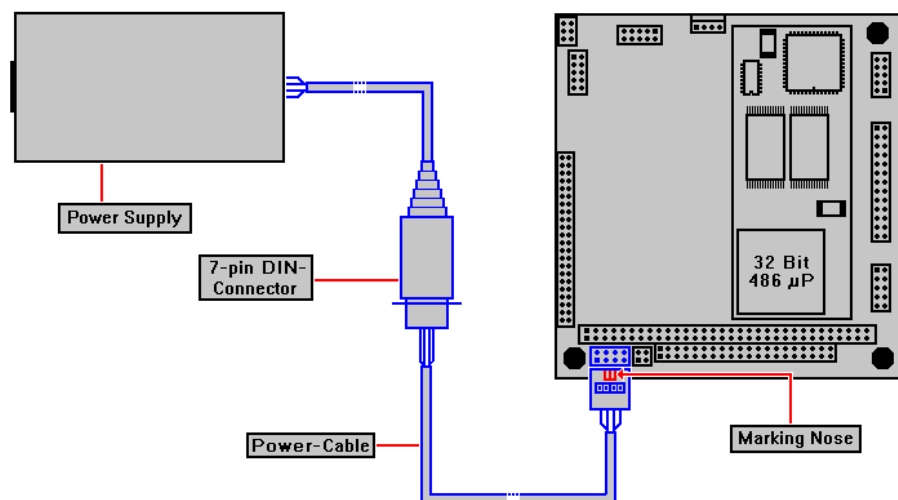

Figure 11: Connection between power unit and base board
cable installation. Please note absolutely that there is a connection designation in the plastic mold of the 10-pin plug socket. This designation must show above (see figure 11).
As last step you have to connect the power supply unit via the DIN connector with the power cable (see figure 11).
- Figure 11: Connection between power unit and base board